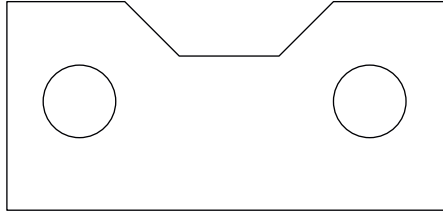

Fig. 6.18 First example – simple tolerances – outline
1. Construct the outline Fig. 6.18.